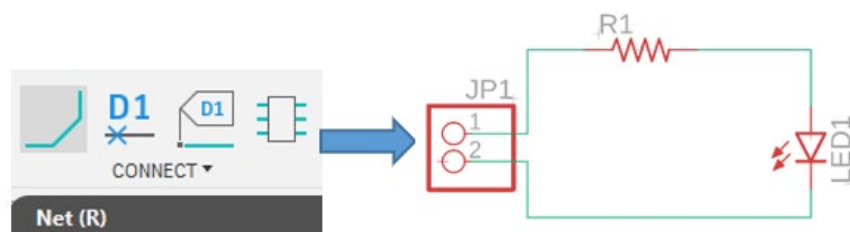

Figure 18 - Select Net tool to connect the parts.
14. Using the **Net** tool, connect the circuit parts together as shown in **Figure 18** below.